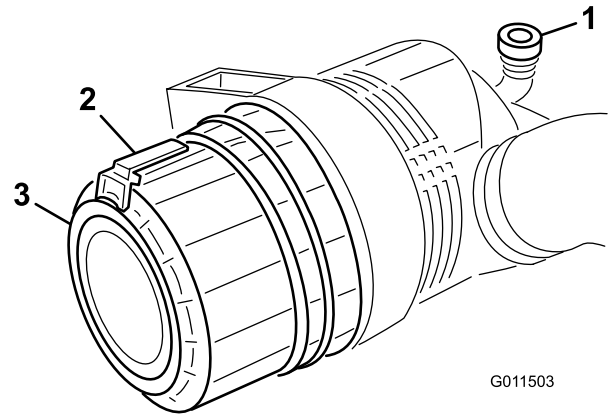

Figure 48
1. Pull the latch outward and rotate the air cleaner cover counterclockwise (Figure 48).
7. Install the cover orienting the rubber outlet valve (Figure 48) in a downward position - between approximately 5:00 to 7:00 when viewed from the end. Secure the latch.